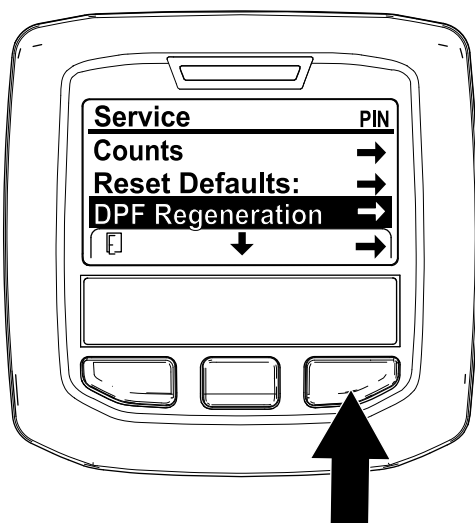

Figure 63
- Access the Service menu, press the center button to scroll down to the DPF REGENERATION option (Figure 63).
- Press the right button to select the DPF Regeneration entry (Figure 63).